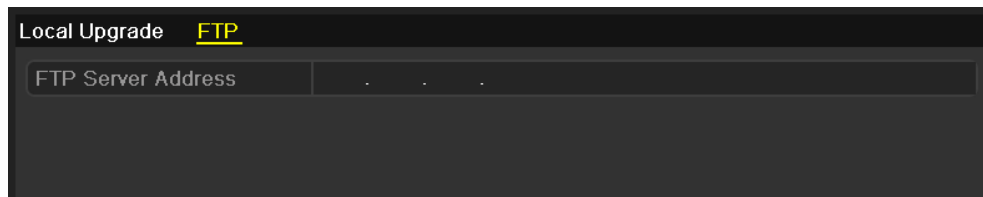

Figure 13. 14 FTP Upgrade Interface
2. Click the **FTP** tab to enter the local upgrade interface, as shown in Figure 13. 14.